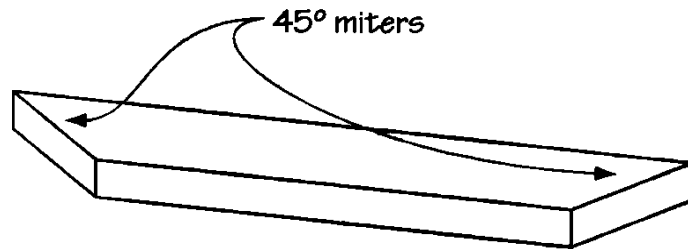
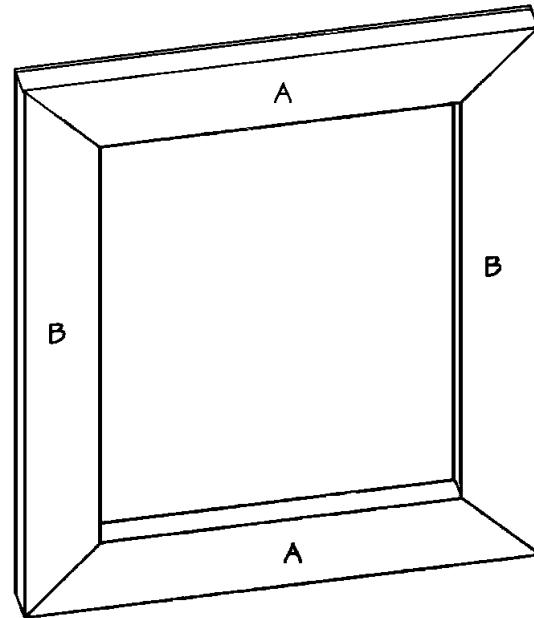
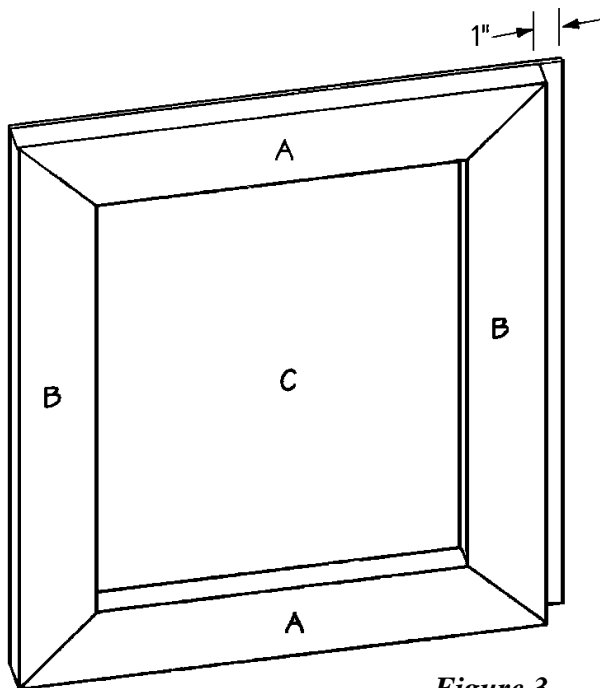
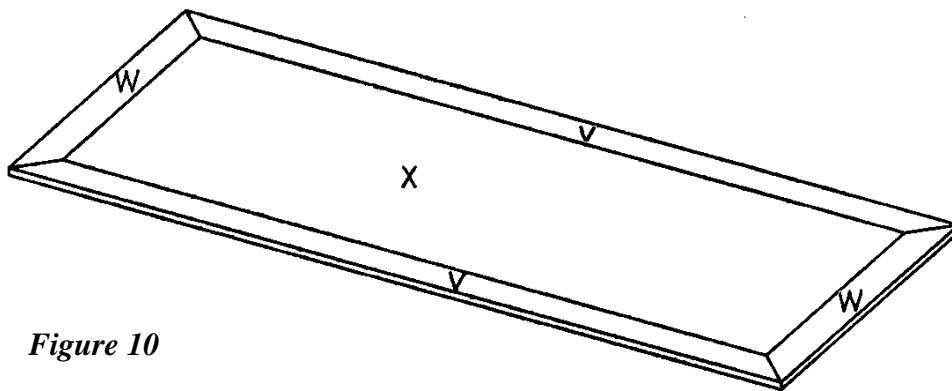

Figure 1
Figure 2
Figure 3
Figure 10
1. Cut eight short frames (A) from 2 x 4 pine, each measuring 23-1/4 inches long.
2. Miter the ends of each of the eight short frames at opposing 45-degree angles, as shown in *Figure 1*.
3. Cut eight long frames (B) from 2 x 4 pine, each measuring 28 inches long.
4. Miter the ends of each of the eight long frames (B) at opposing 45-degree angles, as shown in *Figure 1*.
5. Cut four sides (C) from 1/4-inch plywood, each measuring 24-1/4" x 28".
6. Place two long frames (B) on a level surface, parallel to each other and 21 inches apart, as shown in *Figure 2*. Place two short frames (A) between the ends of the long frames (B), matching miters, to form a 23-1/4 x 28-inch rectangle. Apply glue to the meeting surfaces and nail one side (C) over the four frames (A and B), as shown in *Figure 3*. Note that one 28-inch edge of the side (C) extends 1 inch past the frame assembly. Use 1-1/4-inch (3d) finishing nails spaced every four inches.
1. Cut two long top trims (V) from 1 x 4 pine, each measuring 79 inches long.
2. Miter both ends of each long top trim (V) at opposing 45-degree angles, as shown in *Figure 1*.
3. Cut two short top trims (W) from 1 x 4 pine, each measuring 31-3/4 inches long.
4. Miter both ends of each short top trim (W) at opposing 45-degree angles, as shown in *Figure 1*.
5. Cut one desk top (X) from 3/4-inch plywood, measuring 24-3/4 x 72 inches.
6. Place the desk top (X) on a level surface. Position the long and short top trims (V and W) along the outer edges of the desk top (X), as shown in *Figure 10*. Apply glue to the meeting edges, and clamp the five pieces of wood together with pipe clamps for a few hours. The result is a desk top that now measures 31-3/4 x 79 inches.
7. Place the two base assemblies on a level surface, parallel to each other and 24-1/2 inches apart. Center the desk top over the two base assemblies. Attach the three pieces together by screwing through the top horizontal supports (G) into the desk top. Use three 2-inch screws on each joint. Do not use glue, as you would be unable to disassemble the desk for moving.